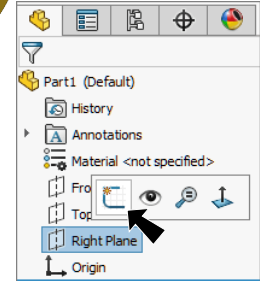
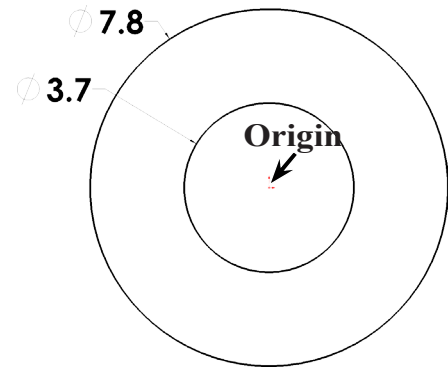

Fig. 1
Fig. 2
- Step 2. Click **Right Plane**  in the Feature Manager and click **Sketch**  on the context toolbar, **Fig. 1**.
- Step 3. Click **Circle**  (S) on the Sketch toolbar.
- Step 4. Sketch two circles starting at the Origin , **Fig. 2**.
- Step 5. Click **Smart Dimension**  (S) on the Sketch toolbar.
- Step 6. Dimension circle **diameters 3.7 and 7.8**, **Fig. 2**.